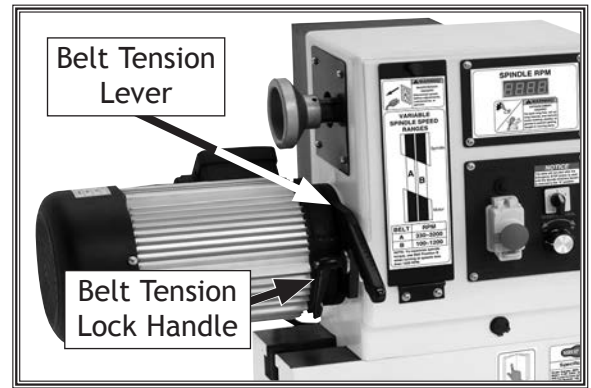

Figure 33. Motor tensoning handle and tension lock handle.
3. Loosen belt tension lock handle (see **Figure 33**).
4. Use belt tension lever (see **Figure 33**) to lift motor assembly all the way up, then re-tighten belt tension lock handle—this will hold motor in place while you change belt position.